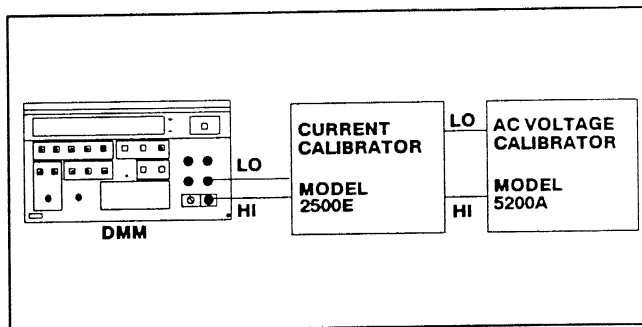

Fig. 3-6. AC Current Calibration Configuration.
- c. Connect the DMM to the AC current calibrator (Fig. 3-6).